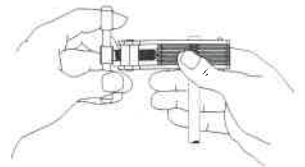

Fig. 1
3. Insert tubing into the adjustable opening of the tube holding assembly. Position the end of the tubing approximately 1/8" above the top surface of the holder. Cover plates of the holder are 1/8" thick and can be used as a comparison gauge for positioning tubing (See Fig. 1)